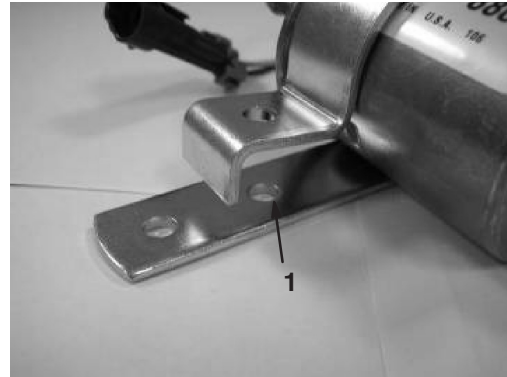

Figure 7
- E. Using the enclosed bolt, secure the black wire ring terminal and the fuel pump bracket to the machine (Fig. 7). Use the bracket mounting holes closest to the fuel pump. Torque the bolt to 100 inch-pounds.
7. Using the enclosed bolt, secure the fuel pump bracket to the machine (Fig. 7). Use the bracket mounting holes closest to the fuel pump. Torque the bolt to 100 inch-pounds.